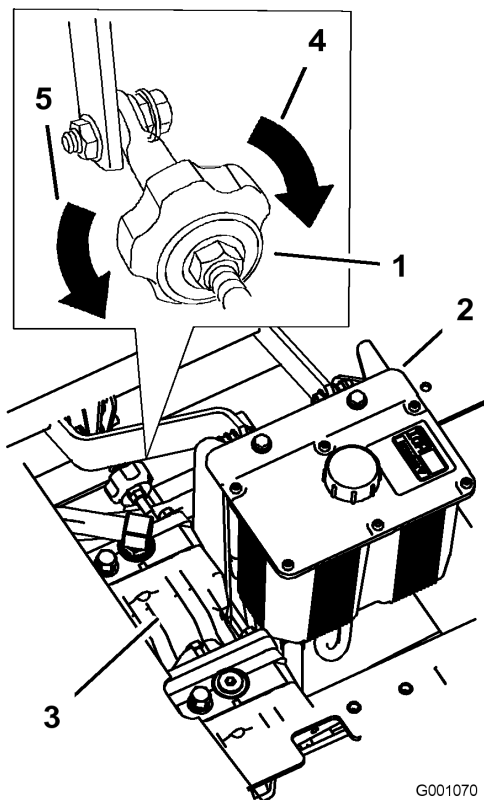

Figure 46
4. To make the machine go right, turn the knob towards the rightside of the machine. Refer to Figure 46.
5. To make the machine go left, turn the knob towards the leftside of the machine. Refer to Figure 46.